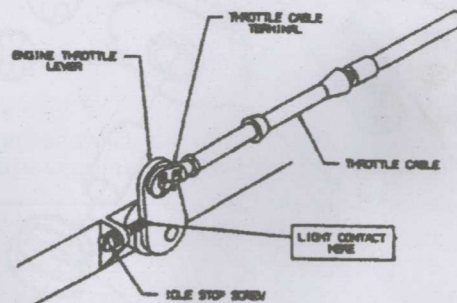

Fig. 6 Engine Throttle Connection
- Throttle Cable must be in light contract with idle stop screw (Ref. Fig. 6)